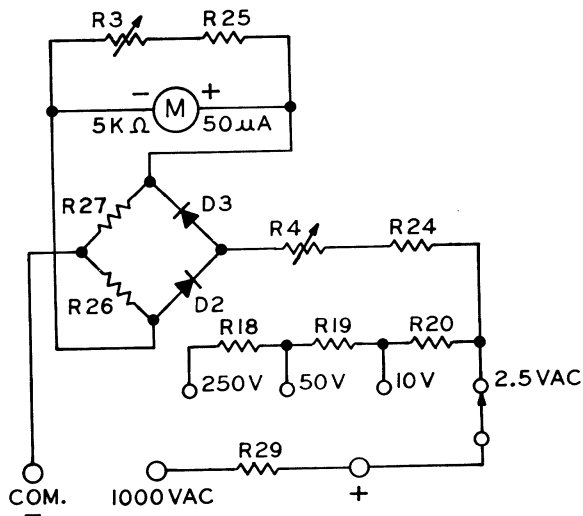

Figure 5-3. Simplified Circuit-AC Volts
5.4.1 The simplified circuit for the AC voltage ranges of the 165 is given in Figure 5.3. The modified full-wave bridge comprising D2, D3, R26 and R27 provides direct current to the metering circuit (M) proportional to the average rectified value of the AC voltage being measured. With the range switch set at 2.5 volts and calibration resistors R3 and R4 properly adjusted, an effective input resistance of 12,500 ohms is attained. This corresponds to a sensitivity of: